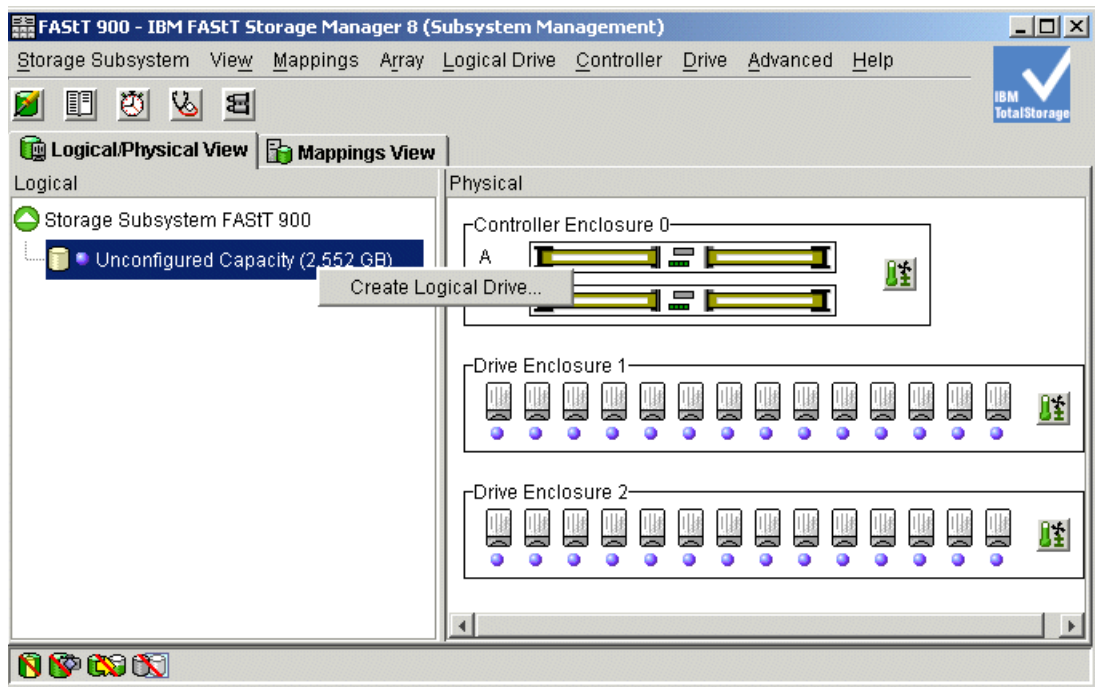

Figure 5-24 Creating a logical drive
1. In the Subsystem Management window (Figure 5-24 on page 145), right-click the unconfigured capacity and select **Create Logical Drive**.